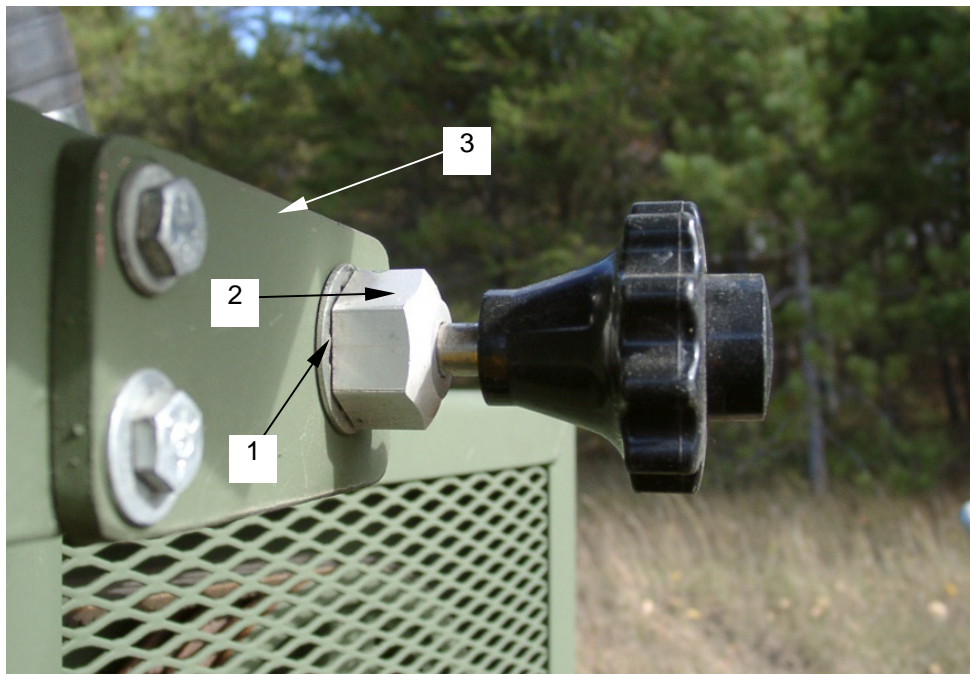

Figure 46. Throttle Control
- e. Remove throttle (**figure 46, item 2**) and lockwasher (**figure 46, item 1**) from bracket (**figure 46, item 3**).
- f. Install lockwasher (**figure 46, item 1**) and new throttle (**figure 46, item 2**) on bracket (**figure 46, item 3**).